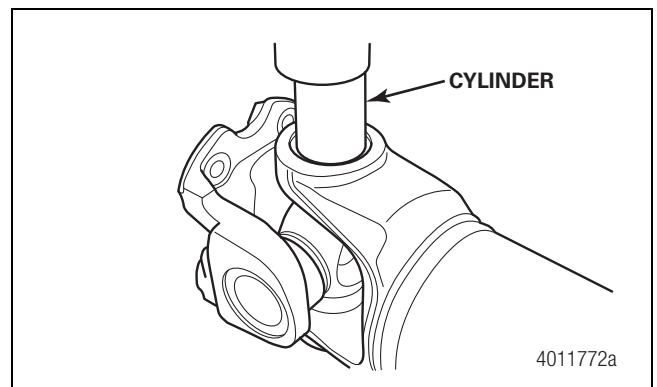

Figure 4.77
10. Install the cylinder and press down to create clearance for snap ring installation. Figure 4.77.